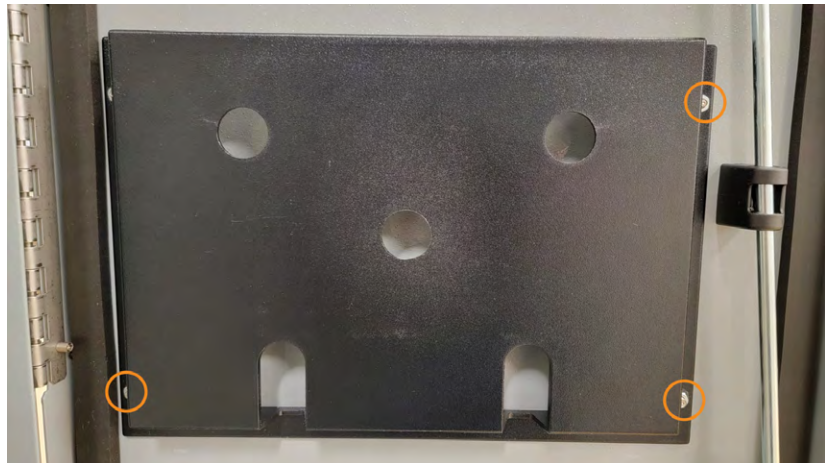

Figure 1 Remove the Existing Nuts
- Step 1. Remove both nuts from the right side of the document holder and a single nut from the bottom left-hand side. See the callouts in *Figure 1*.